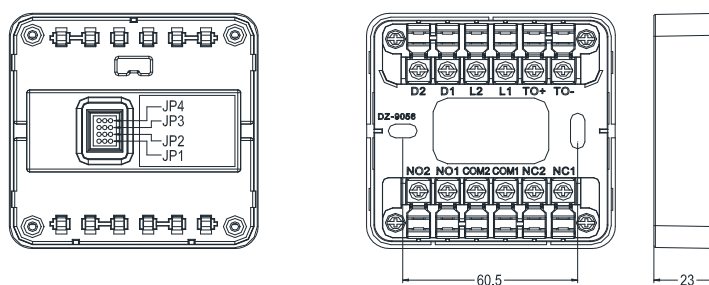

Fig. 2 Base (unit mm)
1. Terminal description (see Fig.2)
5. Use two M4 screws to fix the module base via the two elliptic screw holes shown in Fig.2 and then insert the main body of the BP-FD-AIO319 module into the module base and make sure they contact each other well.